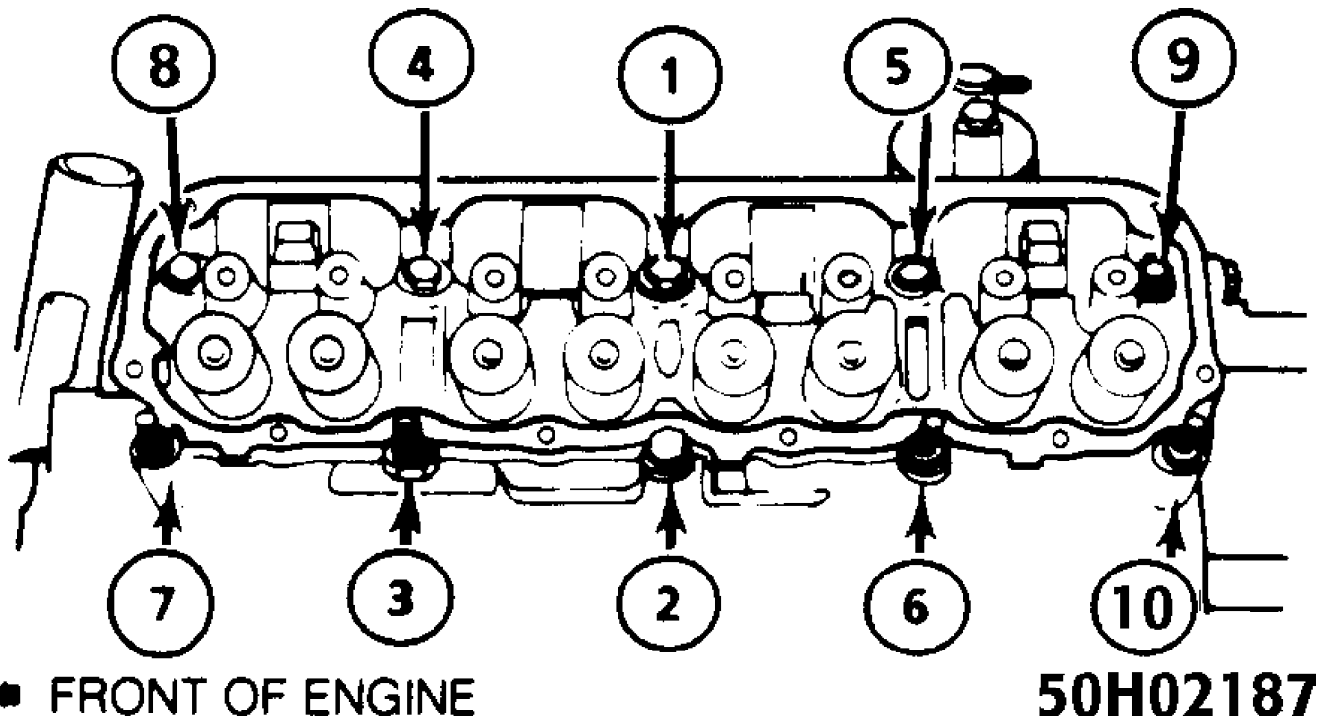

Fig. 3: Cylinder Head Bolt Tightening Sequence
2) Install cylinder head. Apply sealing compound to threads of cylinder head bolt No. 7 before installation. Install cylinder head bolts. Tighten all bolts in 3 stages in sequence to specs. See Fig. 3. For torque specifications see TORQUE SPECIFICATIONS table.